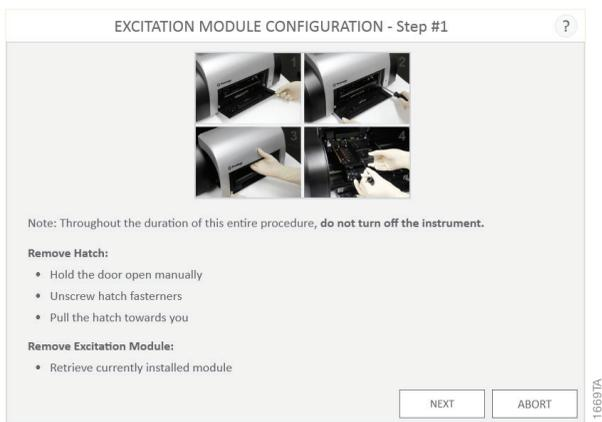

Figure 85. Custom Fluorescence Excitation Module configuration procedure.
1. To add a custom fluorescence excitation module, hold down the plate door, and using the Phillips-Head Screwdriver, unscrew the two screws at the bottom sides of the door (Figure 85).
2. Next pull the front access door toward you to remove the door (Figure 85).